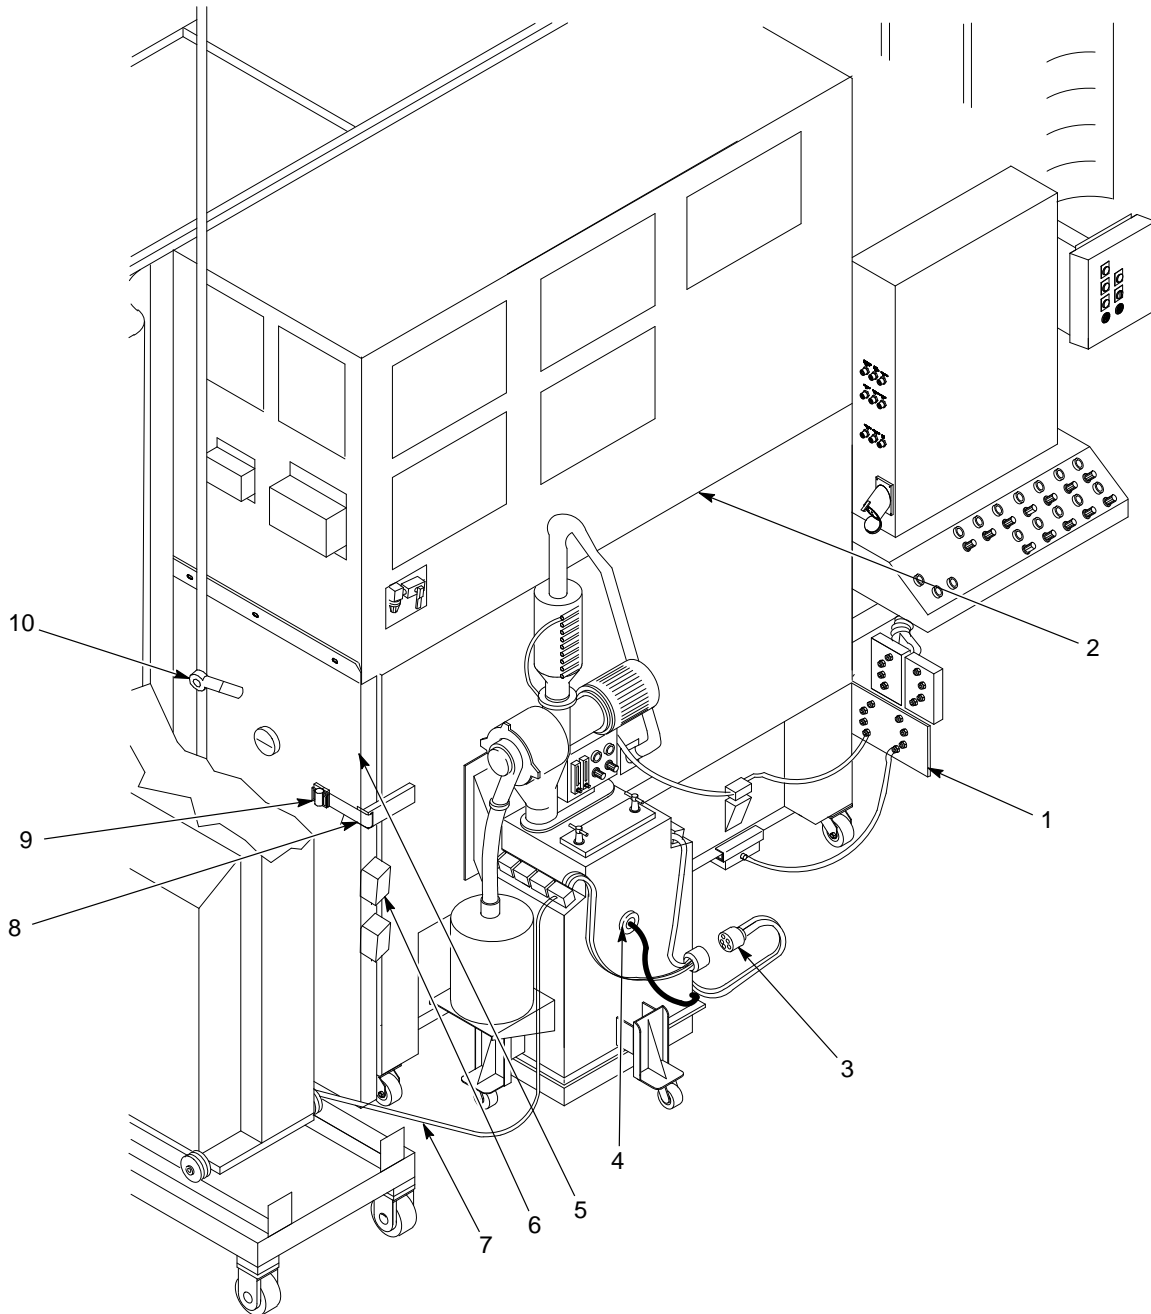

Figure 3-3 Removing the Color Module and Feed Hopper
3. See Figure 3-3. Remove the color module quick-disconnect plates (1). Uncouple the 10-tube connectors (3) from the feed hopper receptacles.
4. If you are using a rotary sieve, disconnect the sieve electrical cables from the junction boxes (6) on the fan section supports (5).
5. Rotate the level sensor (4) to unlock it from its mounting in the side of the feed hopper. Remove the sensor and store it on one of the fan supports.
6. Disconnect the feed hoses (7) from the powder pumps.
8. Use the seal control valve (10) to release the air pressure from the pneumatic seal (2). Make sure the seal deflates.
9. Release the clamping-strap ratchets (9) on the sides of the fan section. Disconnect the clamping straps (8) from the color module.